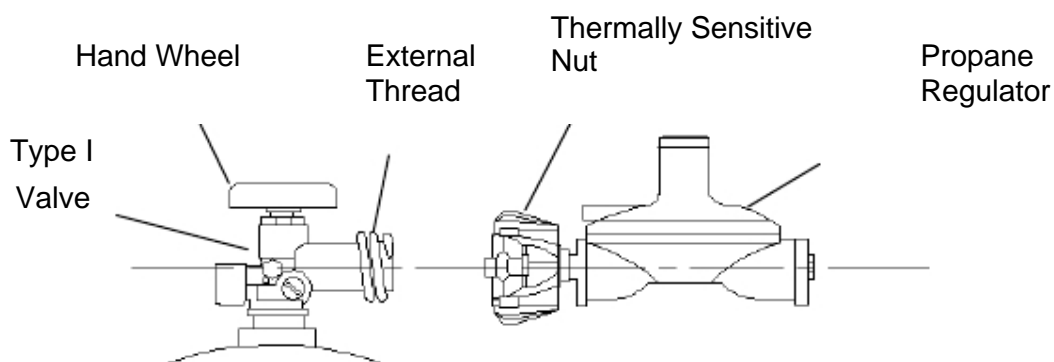

Fig. 23
**⚠ WARNING:** The Type I connective coupling (see Fig. 23) supplied with your grill must not be replaced with a different type of grill/tank connection system. Removal will result in loss of warranty, gas leakage, fire and severe bodily harm.